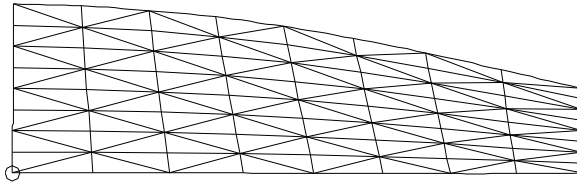

Fig. 5. Triangle mesh used for the Flattener solution.
**Triangle mesh utilized for the solution** (Fig. 5). The triangle mesh is shown in dark green and is located on a layer named SurfName\_Triangles.